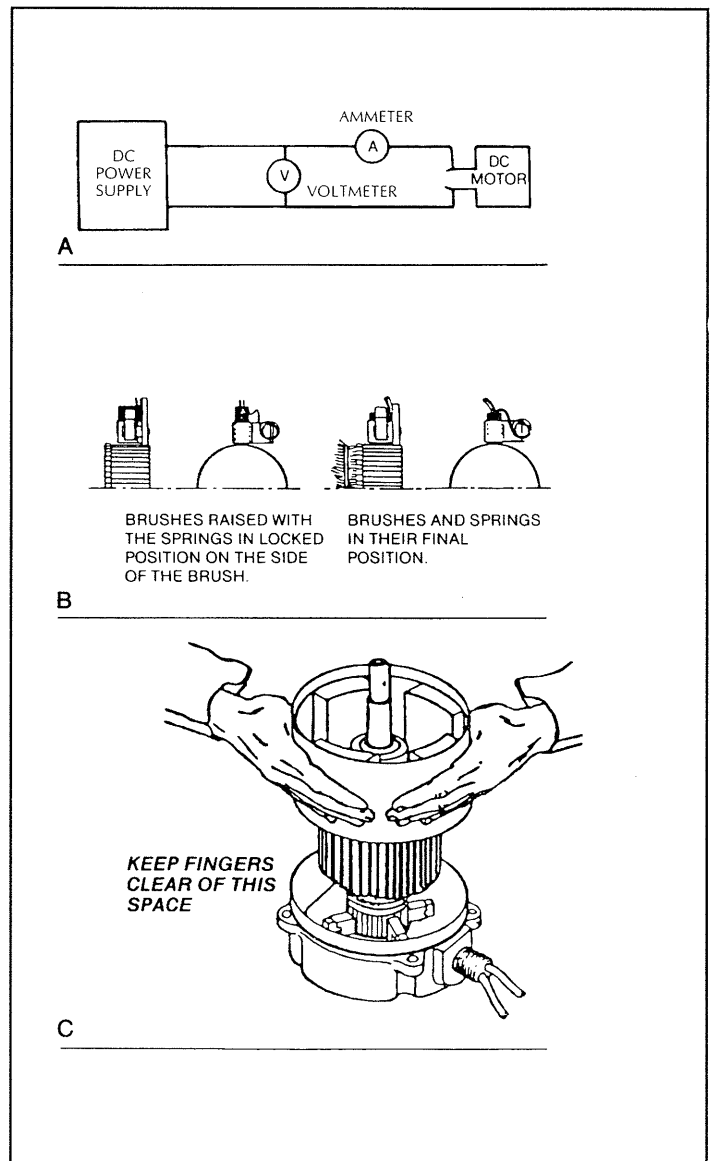

Figure 4-16: Electric Motor Service
4.13 Electric Motor (Figure 4-16)